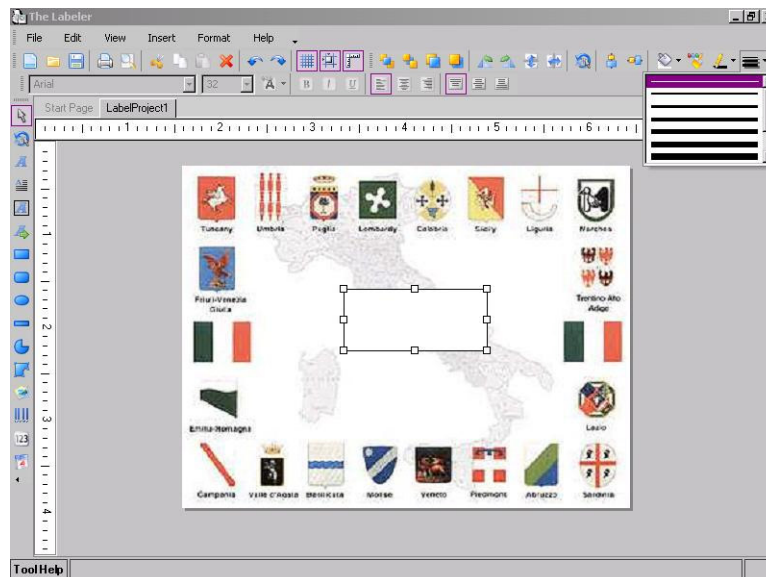

Figure 4.2.3.3: Line thickness list
3. Select a line thickness from the drop down list of different line sizes (see Figure 4.2.3.4).